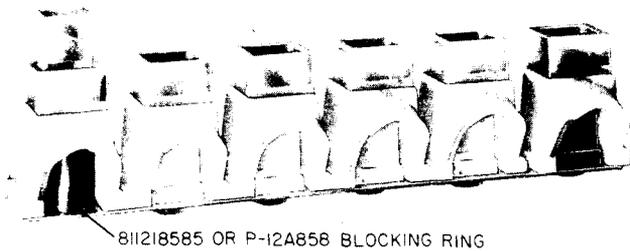

Fig. 4—811218585 (P-12A858) Blocking Ring, Installed
2.04 Unused buttons, either round or square style, may be blocked with an 811218585 (P-12A858) blocking ring. Insert as shown in Fig. 4.